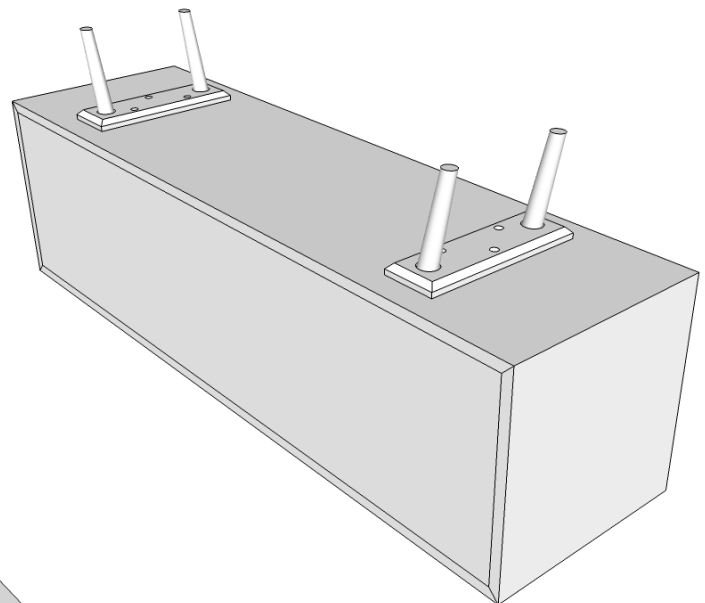

FIGURE 2
- 3) BOLT THE LEG ASSEMBLY PLATE TO THE BOTTOM OF THE CASE UNIT USING THE 1" LAGS. **IMPORTANT: DO NOT USE POWER TOOLS.** WHEN FINISHED, THE LEGS SHOULD LOOK LIKE *FIGURE 2*.